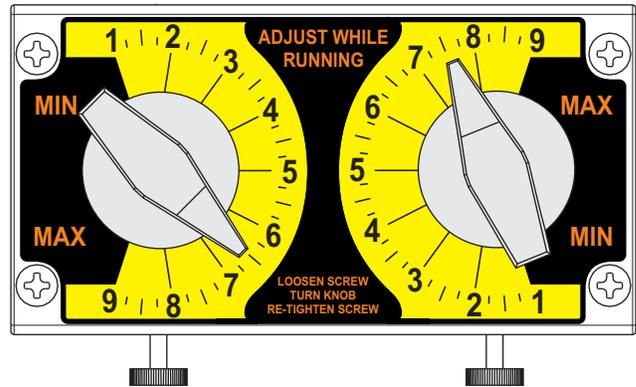

FIG. 5.1
5.1 Adjusting the Pump Output- Standard models (fig. 5.1) - The C-1700N flow rate(s) can be adjusted within a range of 5% -100% of maximum output (20:1 turndown ratio) by means of two mechanical, cam type mechanisms. The mechanism adjusts the pump’s stroke length to an infinite number of settings within the flow range. Because the pump’s output is reduced by increasing the pressure of the system being injected into, the amount of suction lift, and the viscosity of the fluid being injected, the pump must be over-sized to allow for these factors. Sizing the pump to allow adjustment within the midrange is preferred to maintain accuracy. Consult the factory for individual pump model output curve data.